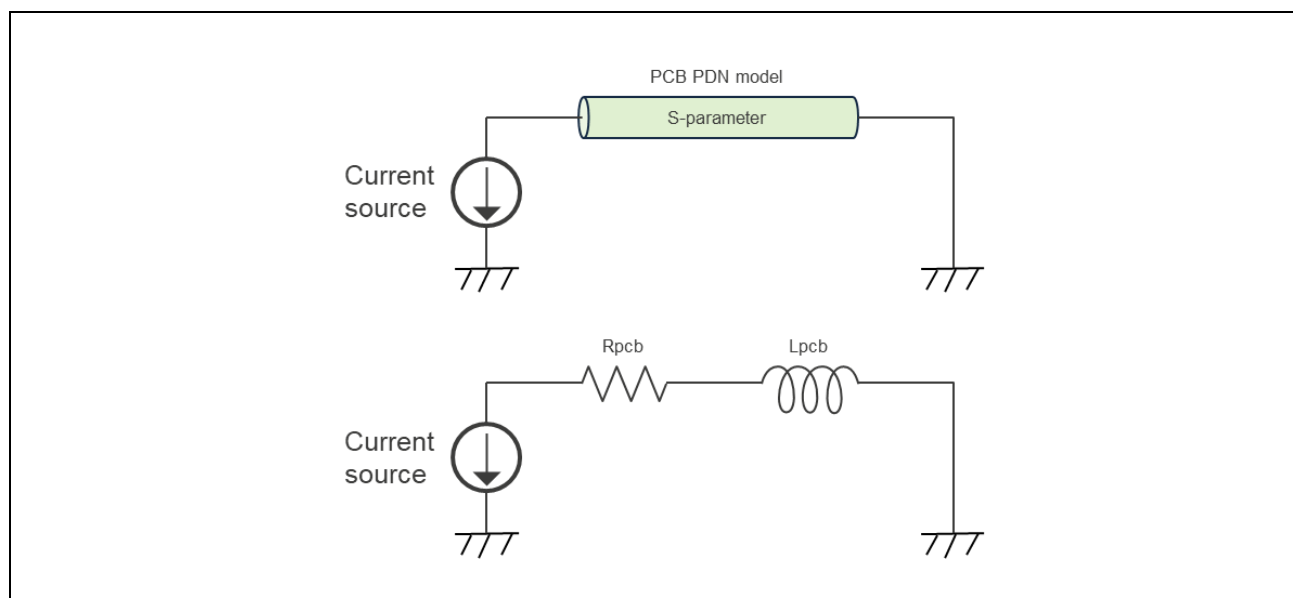

Figure 5.7 Simulator Circuit for Indirect Modeling
**Figure 5.7** illustrates indirect modeling.